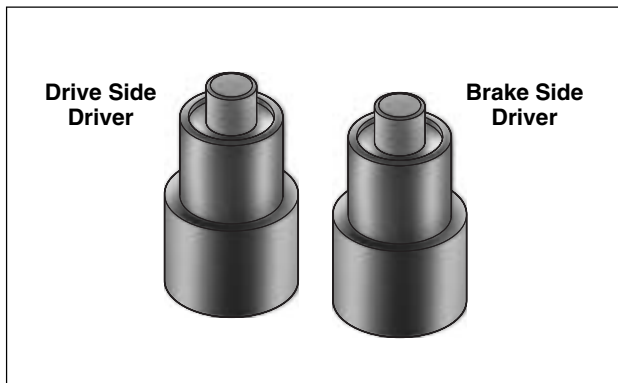

Figure 2-100. Rear Swingarm Bearing Installer (HD-45327)
- a. Obtain REAR SWINGARM BEARING INSTALLER (HD-45327). See Figure 2-100.